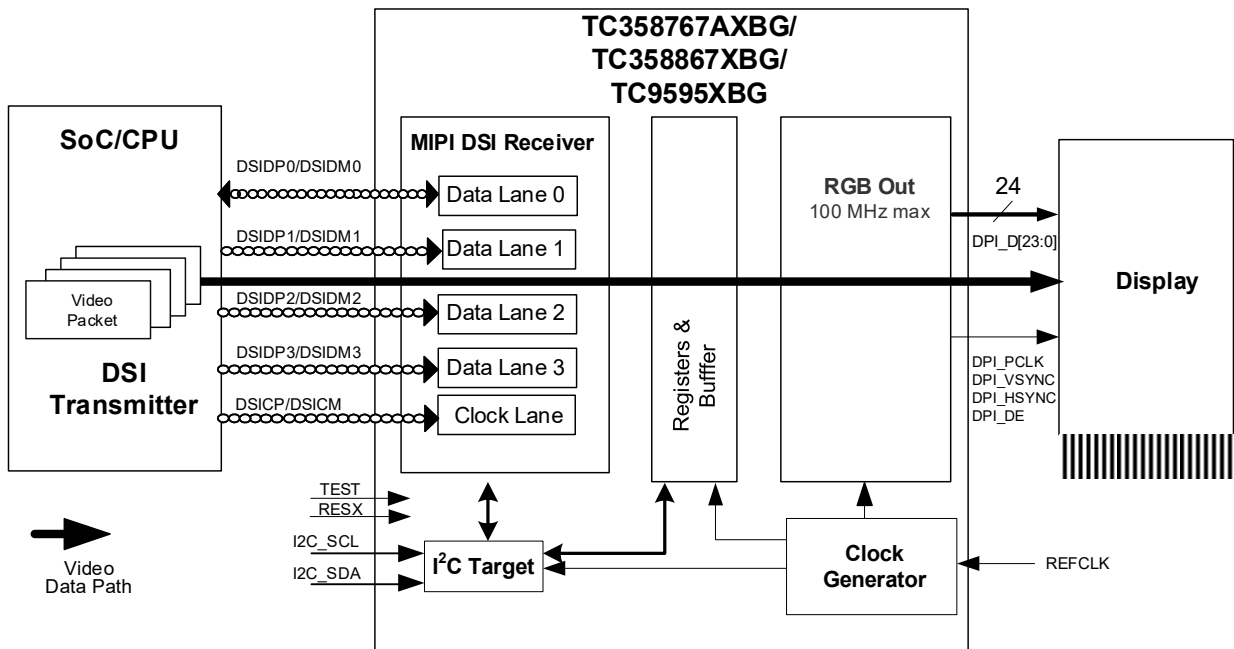

Figure 1.3 System Overview with TC358767AXBG/TC358867XBG/TC9595XBG in MODE_S2P Configuration
- Mode_S2P: A system configuration where TC358767AXBG/TC358867XBG/TC9595XBG may typically be used is shown in Figure 1.3. In this mode, DisplayPort output is not used and the chip rather behaves as a DSI to RGB convertor. In this system, TC358767AXBG/TC358867XBG/TC9595XBG could be connected to a single display. In this configuration, the TC358767AXBG/TC358867XBG/TC9595XBG can support displays with resolution up to WXGA (1280x800 or 1366x768). Maximum output PCLK is 100 MHz. Video stream source is from DSI Host.